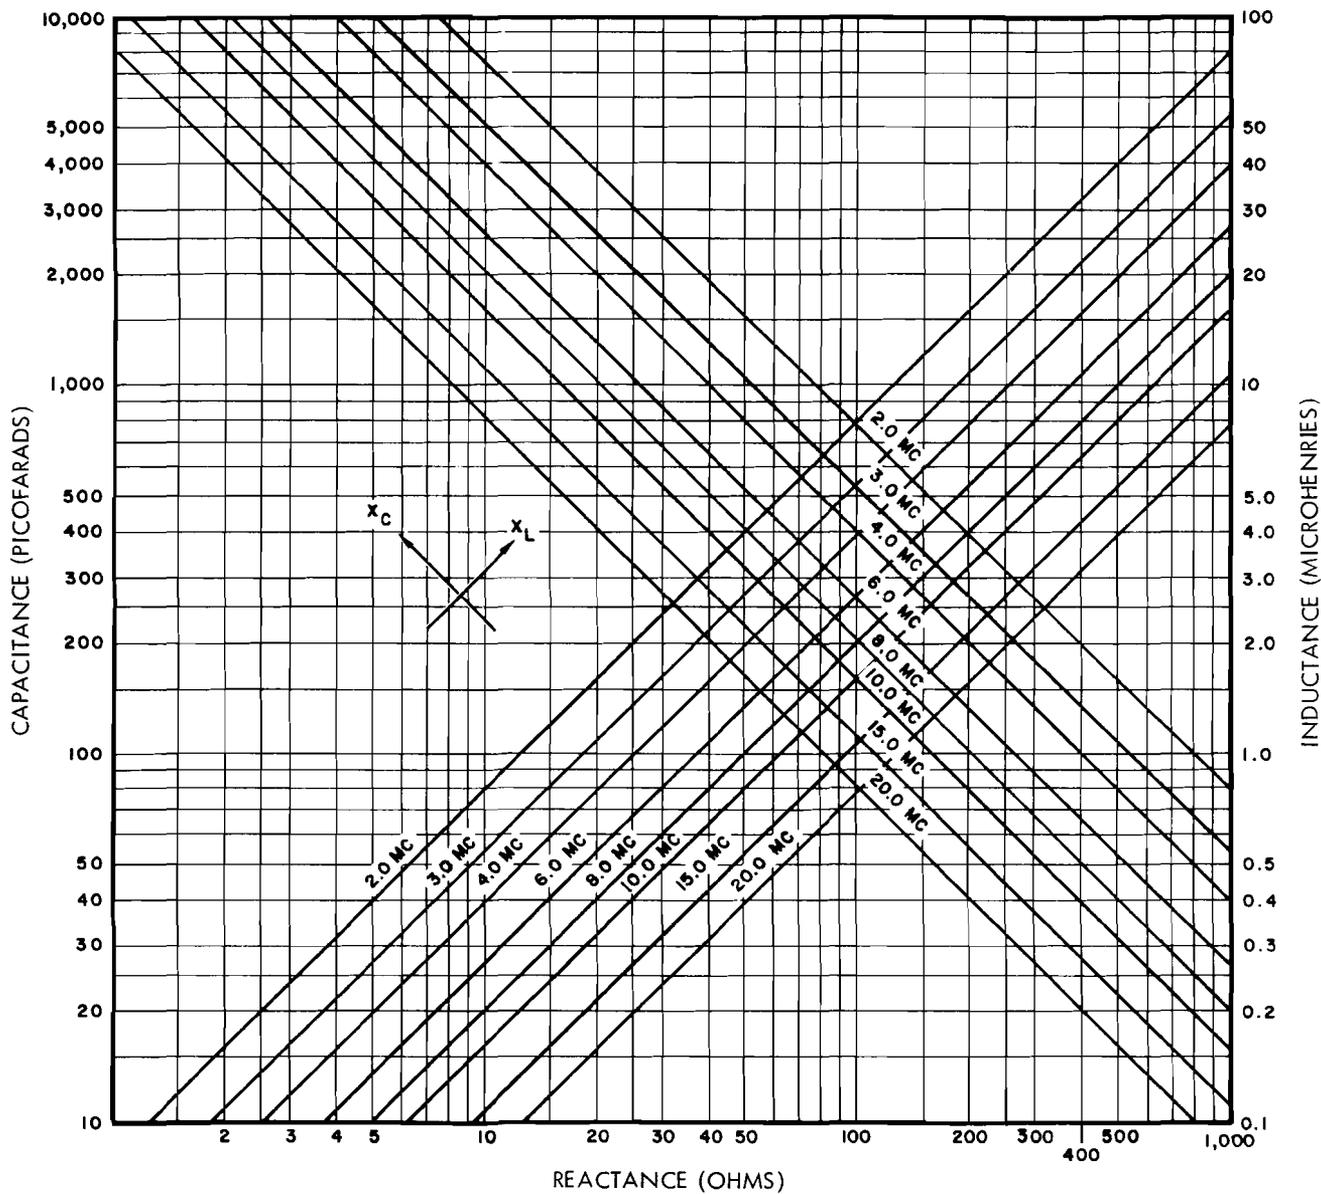

Figure 4-16. Antenna-Coupler Reactance Chart
g. Determine the values of L and C required from the reactance chart (Figure 4-16).
- e. Refer to the reactance chart (Figure 4-16) and find that the value of inductance for $X_S = 270$ at 5 Mc = 9 μ h.